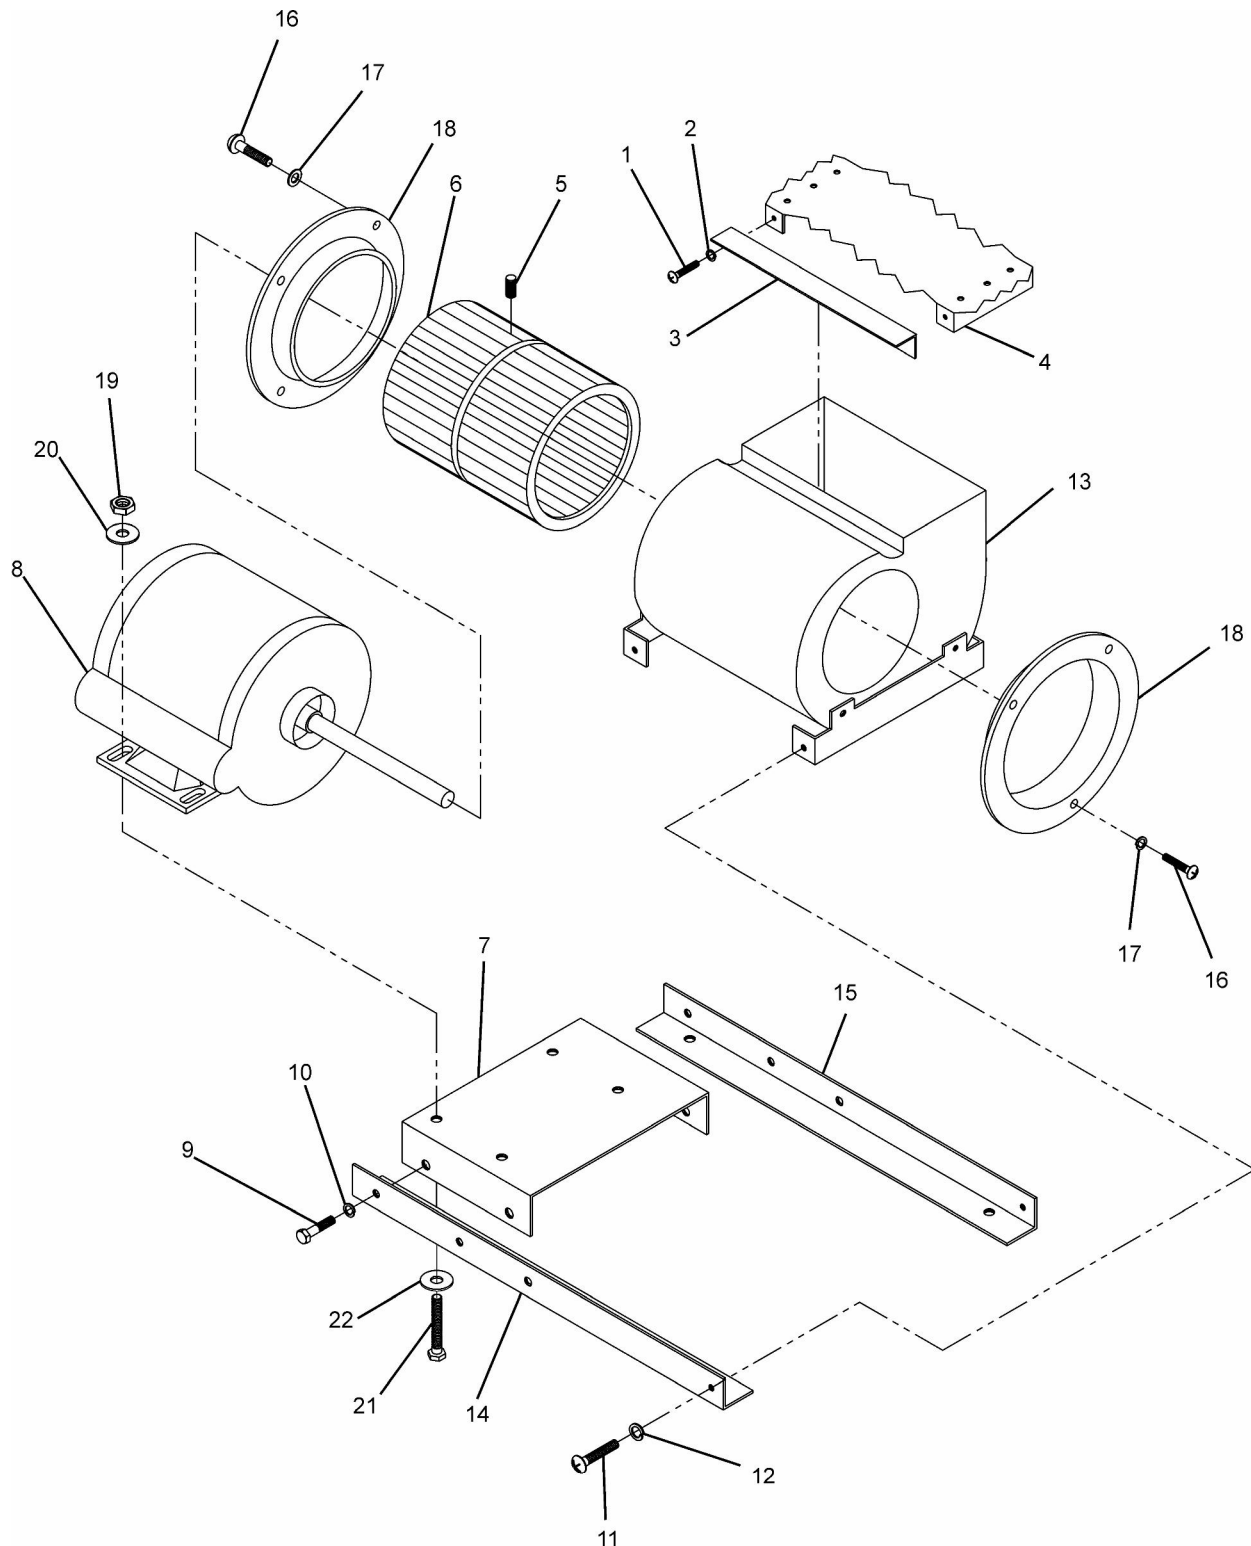

Figure 2. Evaporator Fan Assembly Exploded View
3. Remove two screws (1, Figure 2) and lockwashers (2) and remove close off angle (3) from firewall bracket (4) of the inner housing bulkhead. Refer to figure 2, exploded view.
1. Loosen setscrew (5, Figure 2) on flat side of motor shaft and slide off impeller (6) from motor shaft.
2. Remove motor mounting bracket (7) with motor (8) by removing four hex head screws (9) and lockwashers (10).
3. Remove four screws (11) and lockwashers (12) securing blower housing (13) to evaporator blower rails (14) and (15).
4. Remove four screws (16) and lockwashers (17) to loosen inlet rings (18) from each end of blower housing (13).
5. Carefully remove impeller (6) from blower housing (13) through housing opening.
6. Remove four locking nuts (19) and flat washers (20) from motor mounting screws (21) and flat washers (22) that secure motor (8) to motor mounting bracket (7).
2. Install close off angle (3, Figure 2) onto firewall bracket (4) of the inner housing bulkhead and secure with two lockwashers (2), and screws (1).